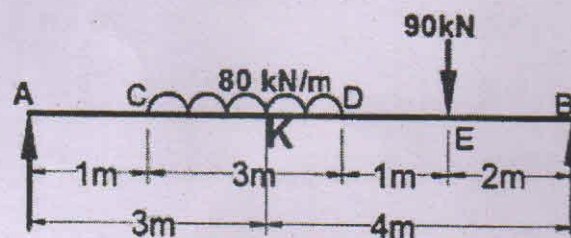

Figure 4
6. (a) Two-wheel loads 200 kN and 80 kN spaced 3 m apart move on the span of the girder of 20 meters. Using influence Line Diagram (ILD), find the maximum bending moment that can occur at a section 8 meters from the left end. Any wheel load can lead the other. (4)
- (b) Using ILD, find the shear force at the section K for the loaded girder shown in Figure 4. (4)